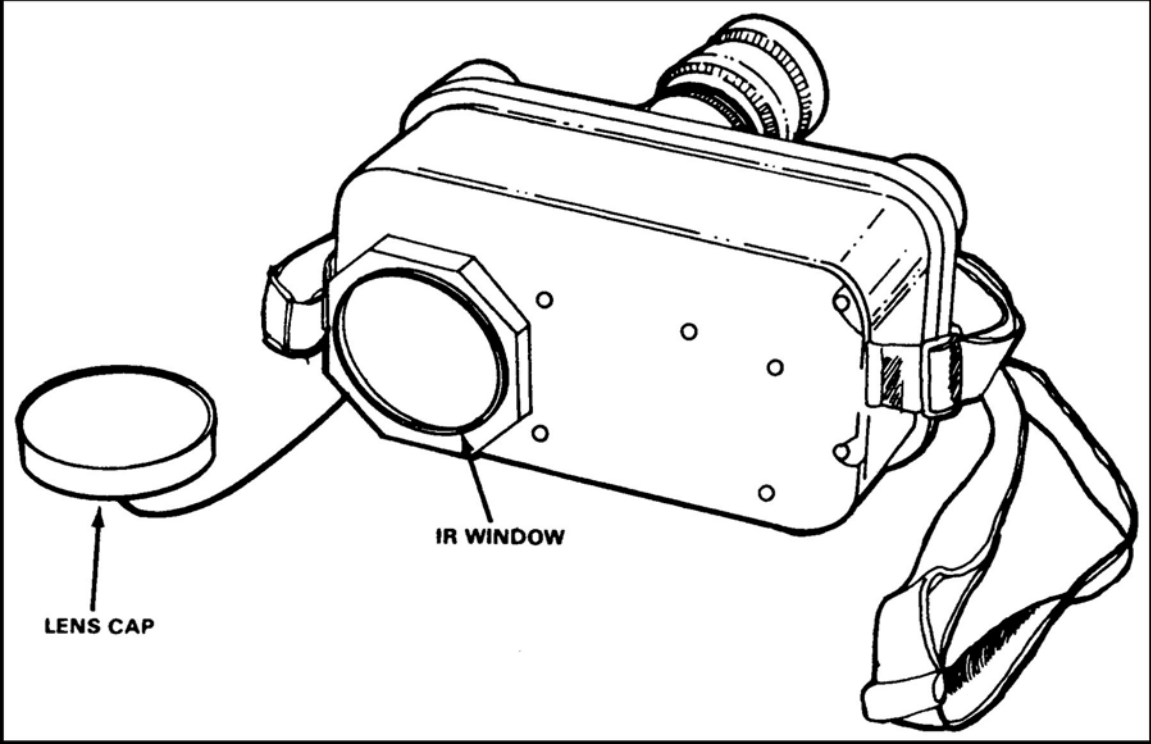

Figure 3. Cap and IR window.
4. Remove the lens cap from the infrared (IR) window (Figure 3).